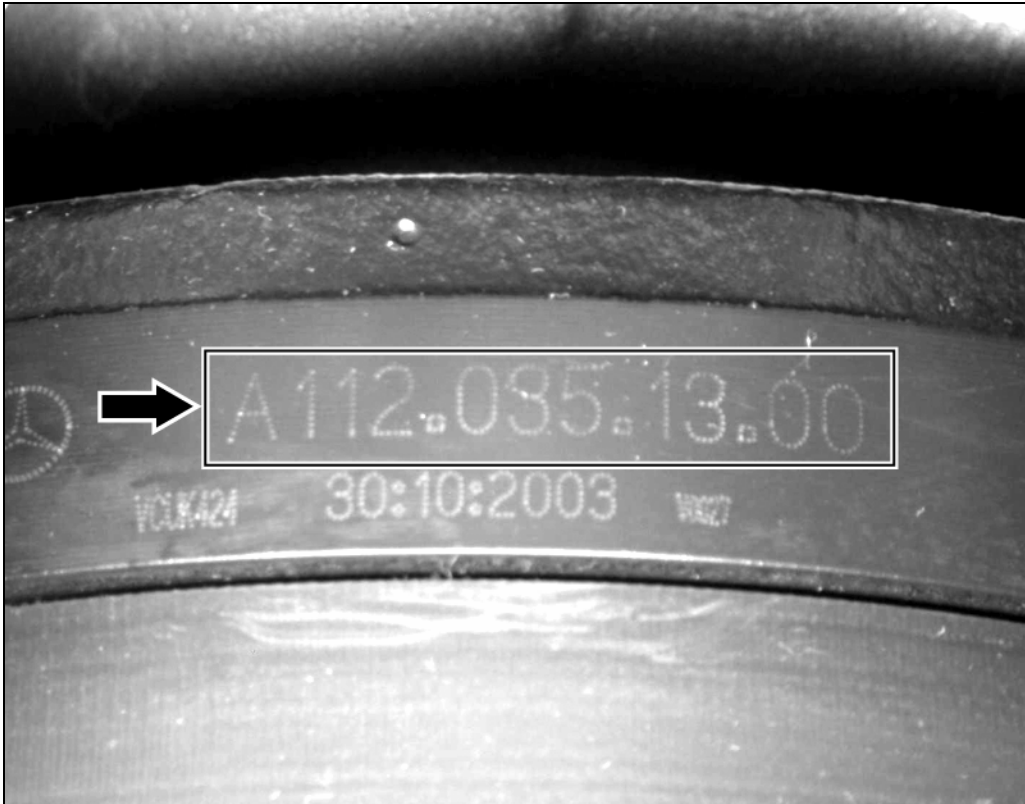

Figure 1
1. Turn crankshaft in direction of normal rotation until the part number (arrow, Figure 1) of the harmonic balancer pulley is visible.